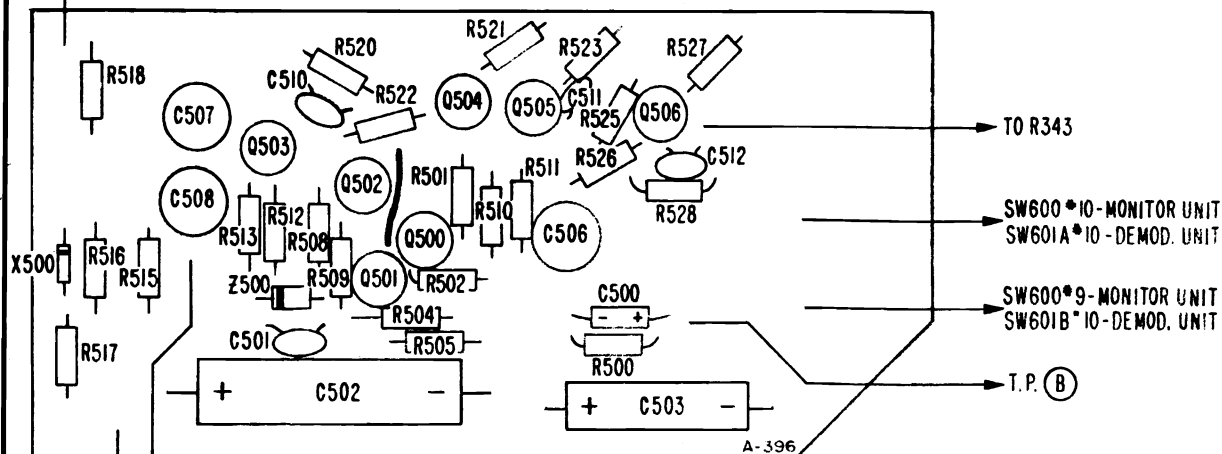

Figure 11 - Monitor Demodulator PC Board - Top View
3. Inject a strong 4.5 MC C.W. signal from the generator properly terminated, (see figure 11) to TP "H" through a .05mf. capacitor. Generator common lead to ground.